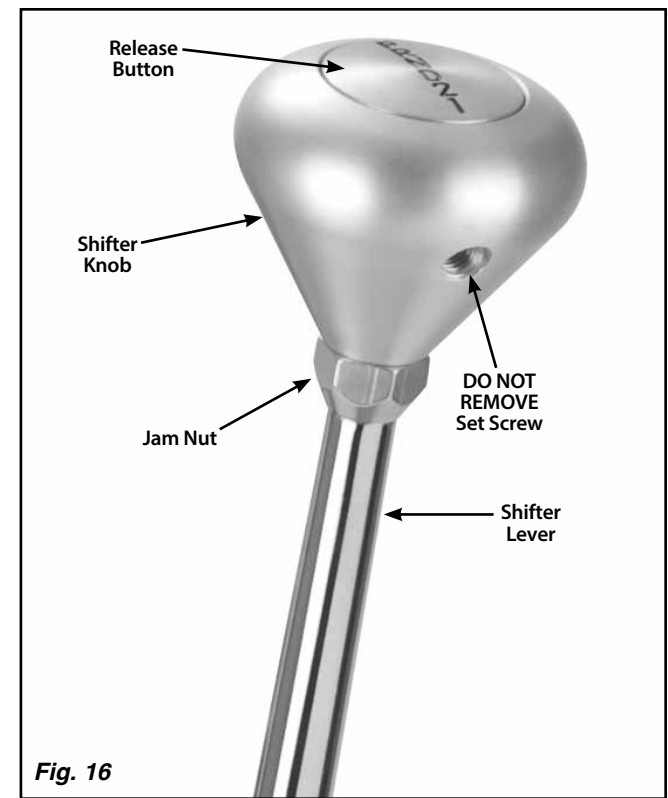

Fig. 16
- Step 2:** Loosen the jam nut below the shifter knob. **DO NOT** loosen or remove the set screw in the knob. **Fig. 16**